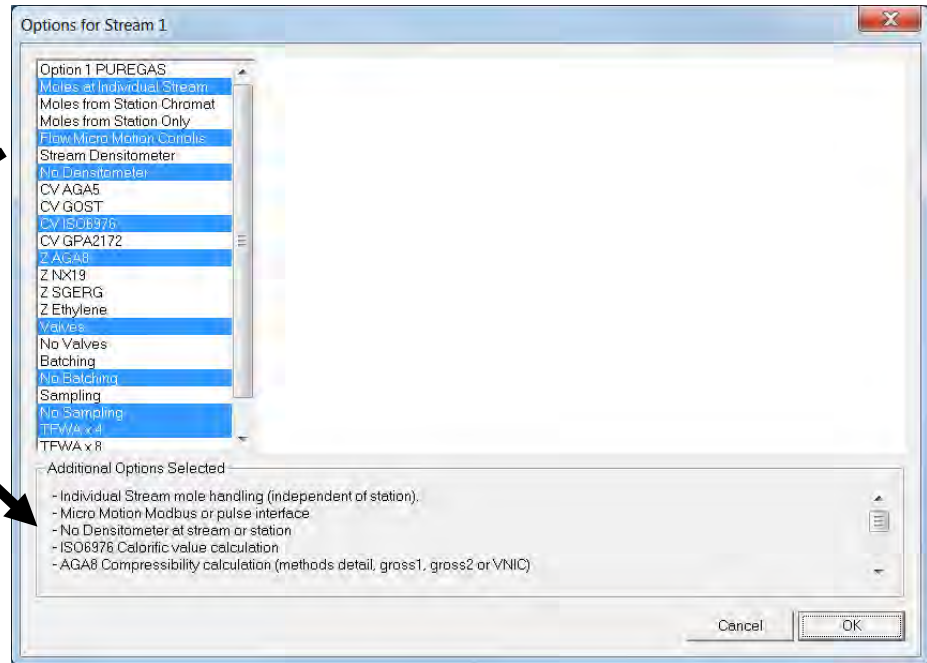

Figure 2-7. Gas Station Options Summarized
**Note:** As you select options, the Additional Options Selected frame (at bottom of the Options screen) summarizes your selections (see *Figure 2-7*).